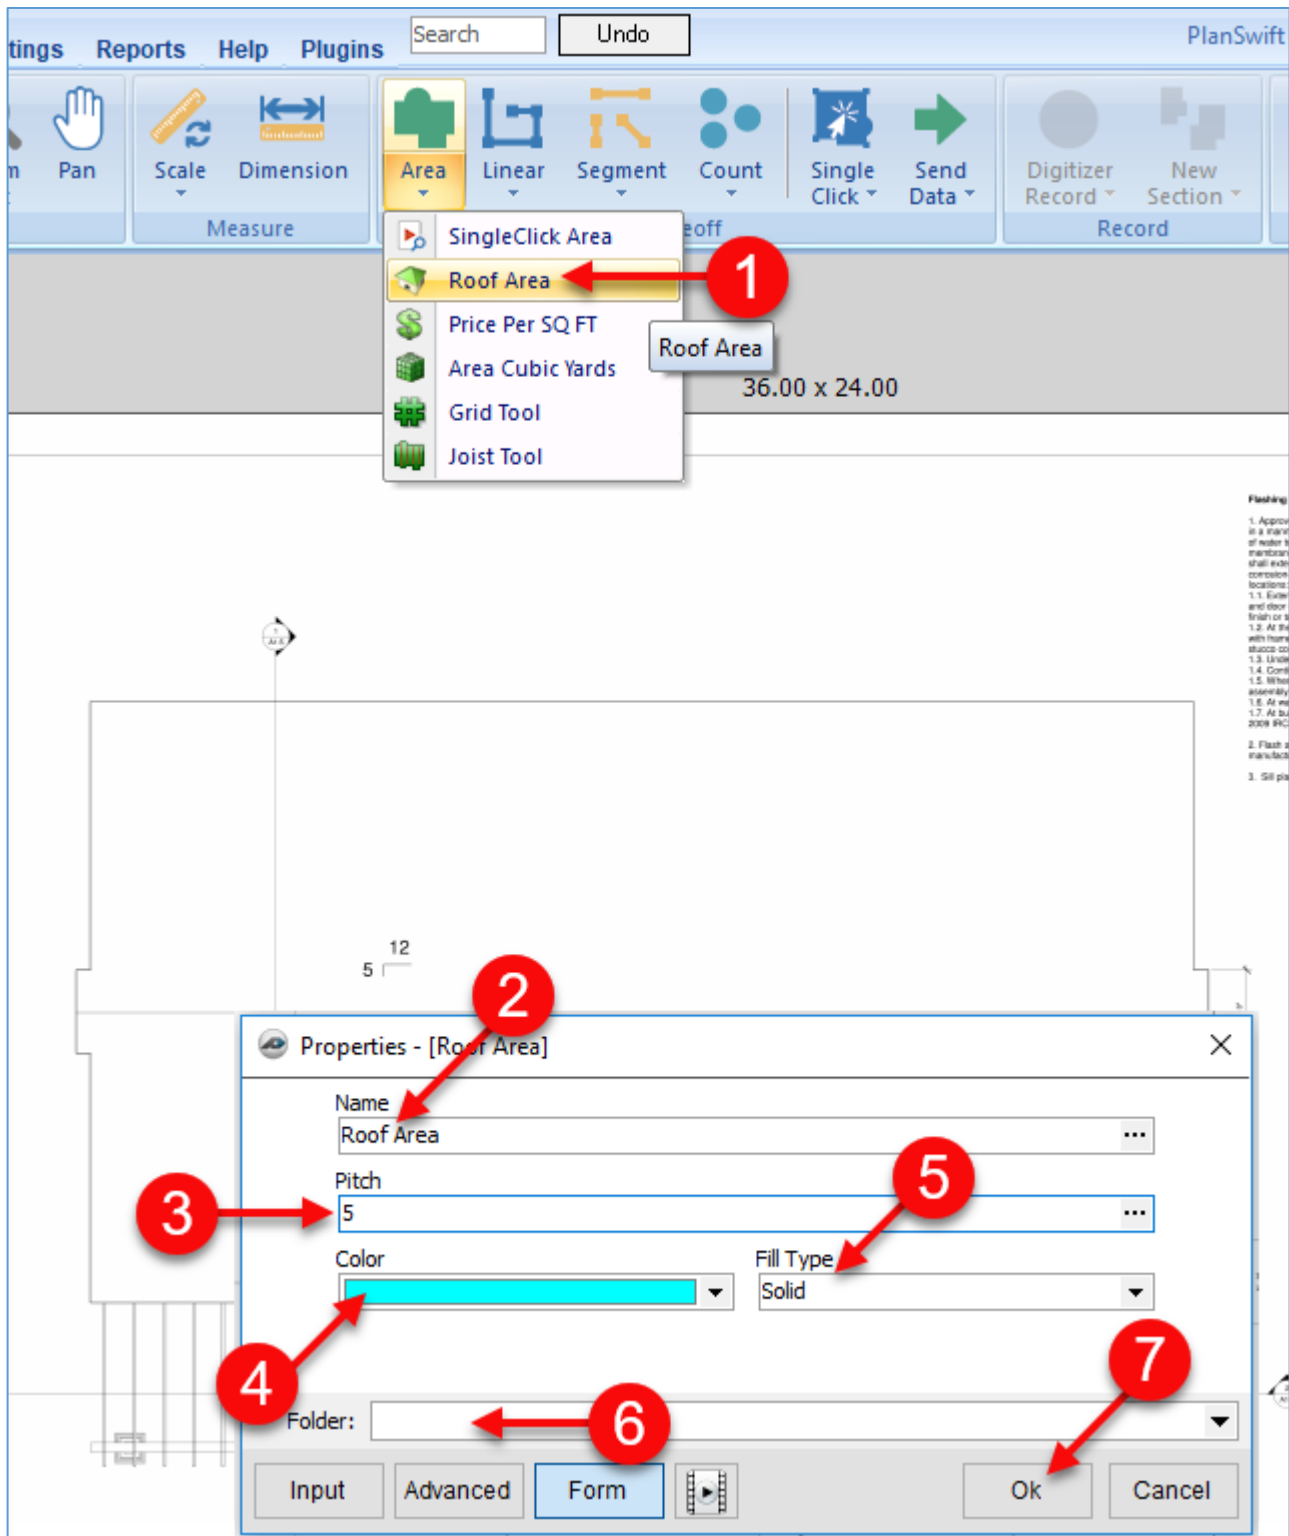

Figure 32-A
8. The **Digitizer Record** turns on (Fig. 32-B).